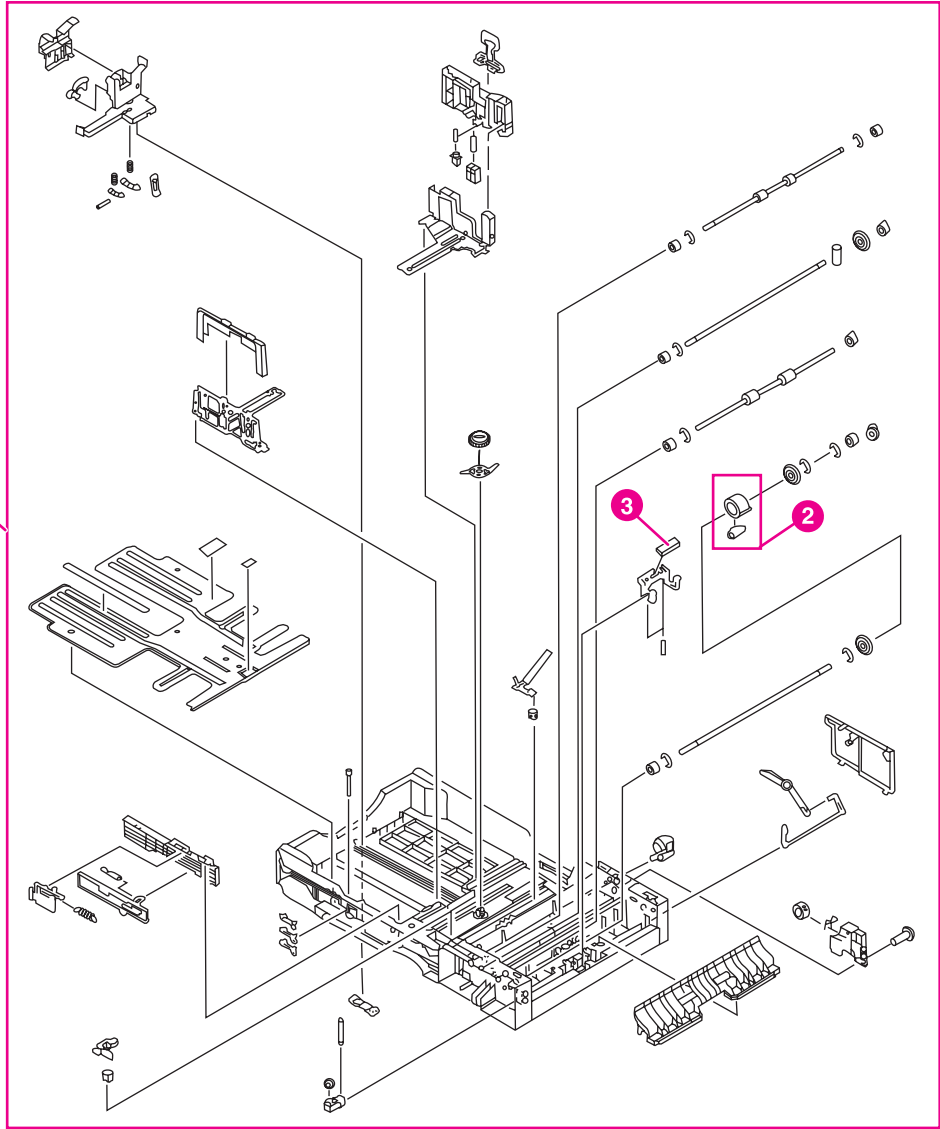
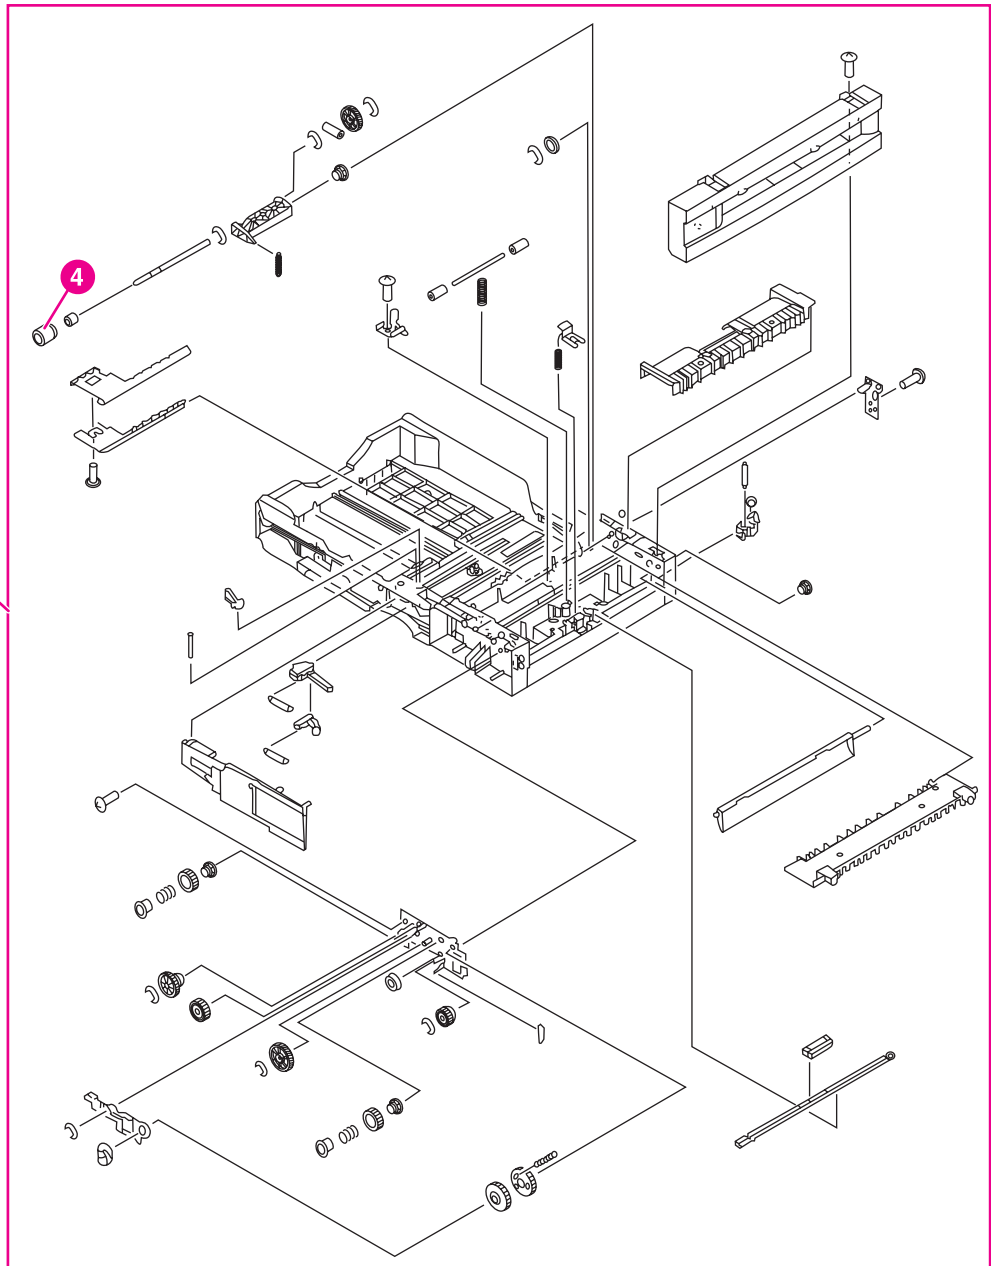

Figure 8-18. Cassette (1 of 2)
Figure 8-19.
Table 8-19. Cassette lists parts shown in Figure 8-18. Cassette \(1 of 2\) and Figure 8-19. Cassette \(2 of 2\). If you order a replacement cassette (item 1), you will receive all parts shown in both figures.